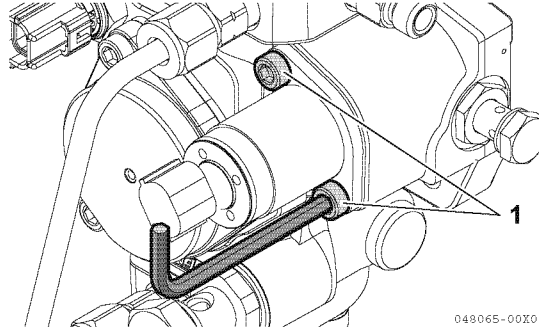

Fig.50-22
- 2 - Disconnect the connector and use a hex wrench (size: 5 mm) to loosen and remove the SCV mounting bolts (1, Fig.50-22). Do not perform this work with the hex wrench inserted at an angle or improperly inserted.